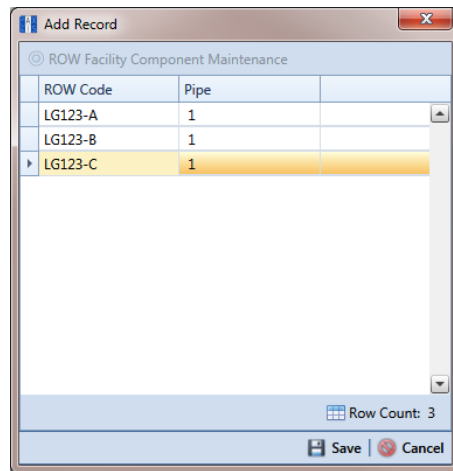

Figure 4-20. Add Record
- 6 Select a pipeline in the dialog box that you want to add a maintenance record. For example, pipeline *LG123-C* is selected in the next figure (Figure 4-20).